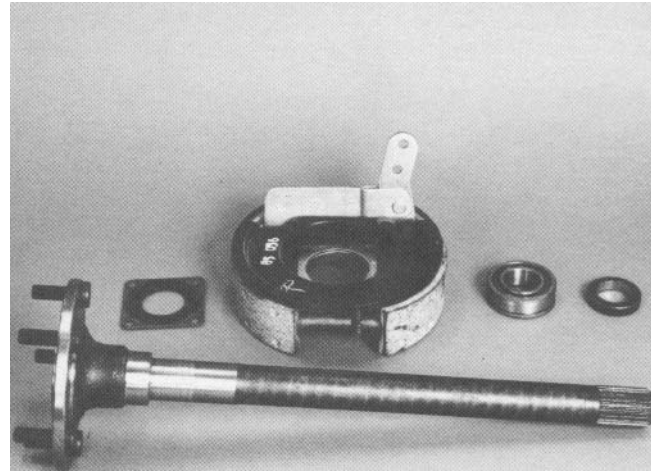

Figure 13
13. Inspect all components for wear and damage (Fig. 13). Replace the axle shaft if the seal has grooved the axle surface more than 1/64 inch (0.40 mm).